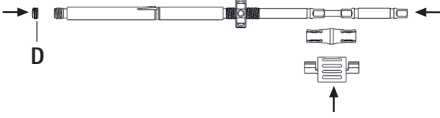

Fig. 11
- ▶ Insert the screwdriver in the inner sleeve, use the spacer to secure it and attach the set screw **D**, see Fig. 11.